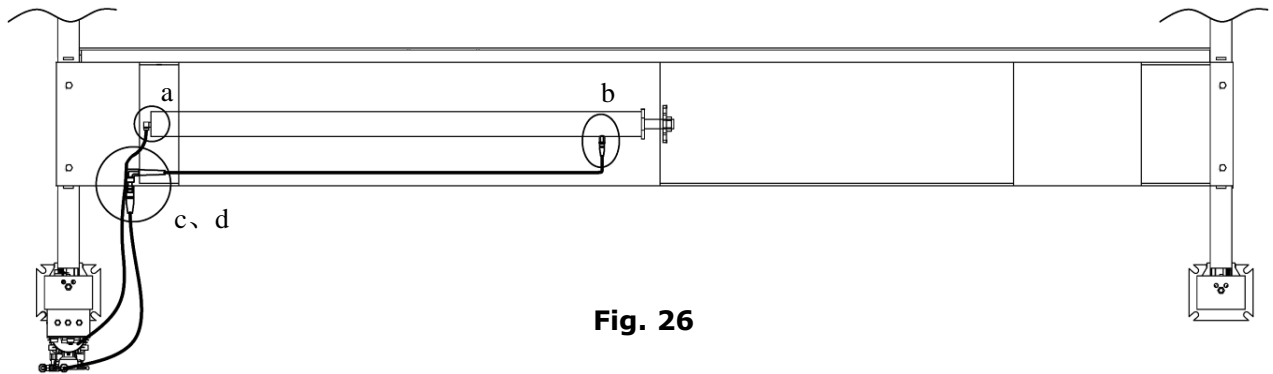

Fig. 26
2. For power unit attached to the column of cross beam **B** (See Fig. 26).